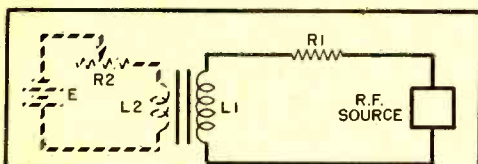

Fig. 1. How a control current governs the secondary current in a saturable reactor.
**Saturable Reactance.** Suppose we have a coil across which a radio-frequency voltage is applied (Fig. 1, right). The current that flows in resistor  $R_1$  is determined primarily by the size of the r.f. voltage, the resistance of  $R_1$ , and the inductive reactance of coil  $L_1$ . If the voltage is small and the core of the inductance unsaturated, the inductive reactance will be quite high and hence the current will be limited to a small but constant value.
Now assume that another separate current is gradually built up in a second coil wound on the same core as the first. This could be accomplished by slowly reducing the resistance of potentiometer  $R_2$ , as shown in Fig. 1. For small values of current in  $L_2$ , no noticeable effect will be observed on the other side of the transformer. As the current in  $L_2$  rises, the core will begin to saturate and the inductive reactance of  $L_1$  will diminish, causing the current from the r.f. voltage source through  $R_1$  to increase. Thus, this circuit makes it possible for a d.c. control current in  $L_2$  to influence the magnitude of the r.f. current in the secondary circuit.